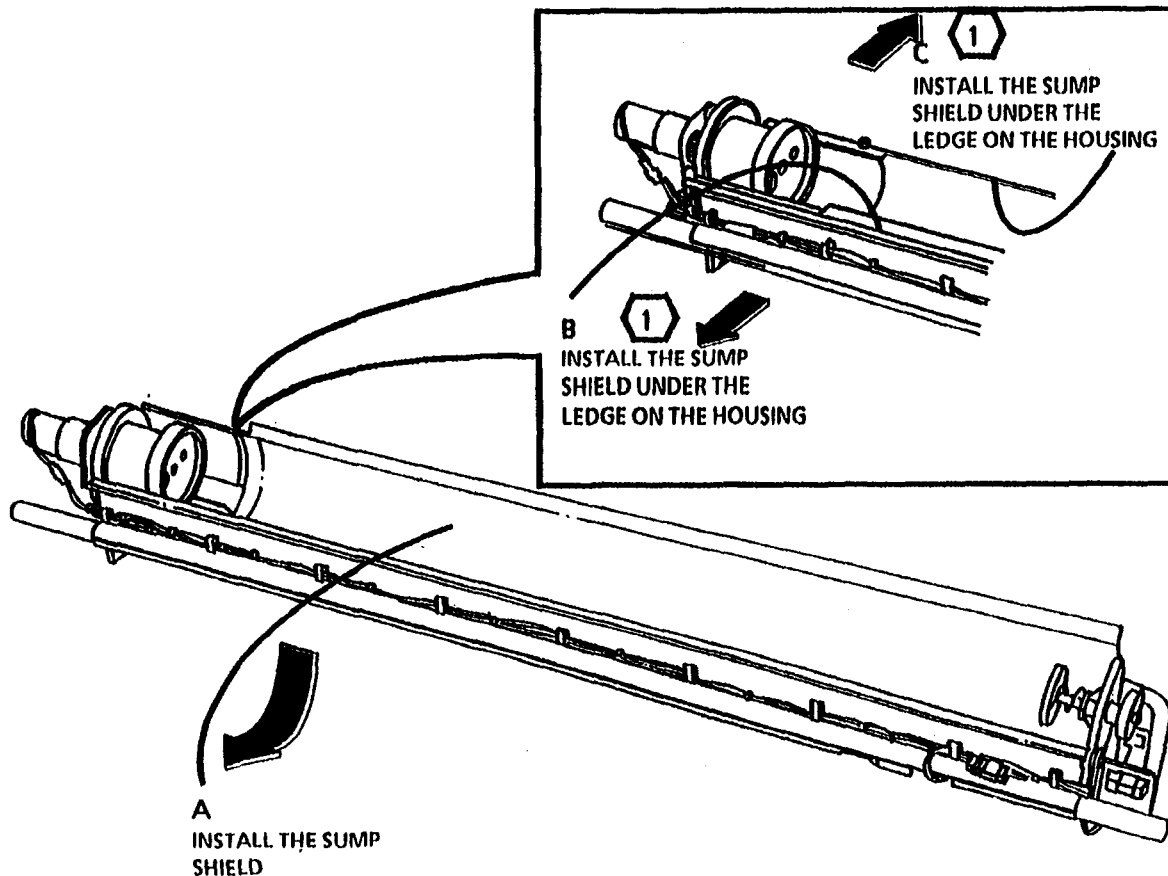

Figure 2. Install the Sump Shield in the Developer Module
1. (Figure 2): Install the Sump Shield in the Developer Module.